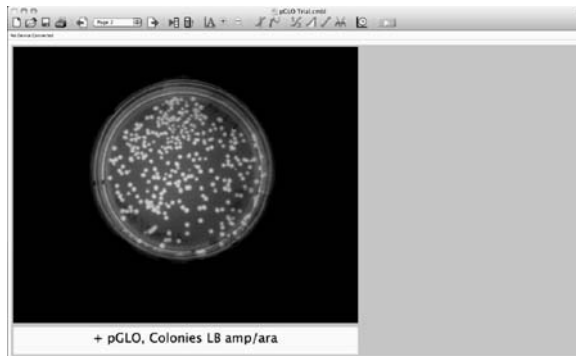

Figure 1
7. The screen should now resemble Figure 1.